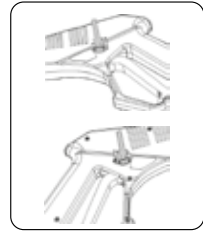

FIGURE 8.4
3. Press the lock-on button of the trigger gun to lock the trigger in the OFF position (Figures 8.4, 8.5 e 8.6).
9. Release the lock-on button. "ON" unlocked, "OFF" locked (Figure 8.4, 8.5 e 8.6)